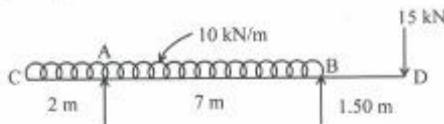

Fig. Q. 12. (a)
- (ii) Direct stresses of 140N/mm^2 tensile and 100N/mm^2 compression exist on two perpendicular planes at a certain point in a body. They are also accompanied by shear stress on the planes. The greatest principal stress at the point due to these is 160 N/mm^2 . (8)
- (1) What must be the magnitude of the shear stresses on the two planes?
- (2) What will be the maximum shear stress at the point?
12. (a) Draw SFD and BMD and indicates the salient features of beam loaded Fig. Q. 12. (a) (16)